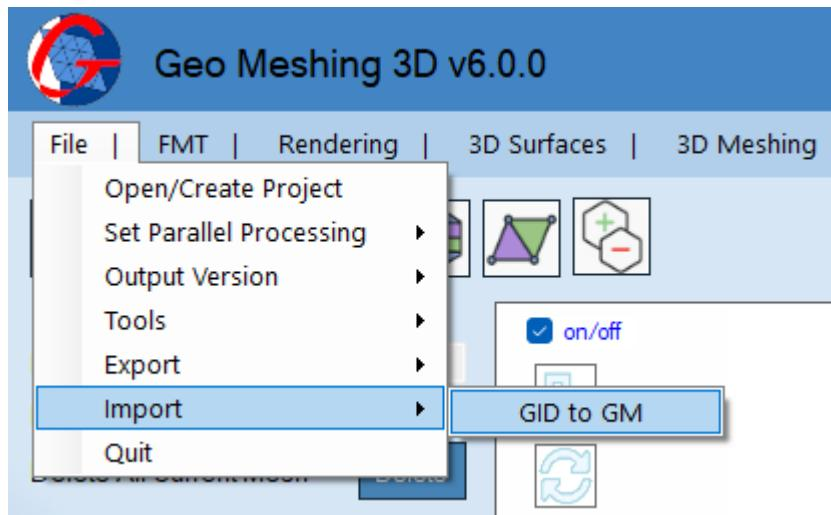

Figure 20: File Menu – Import.
- **File Menu, Import:** This option (shown in Figure 20) has a submenu with *GID to GM* option.